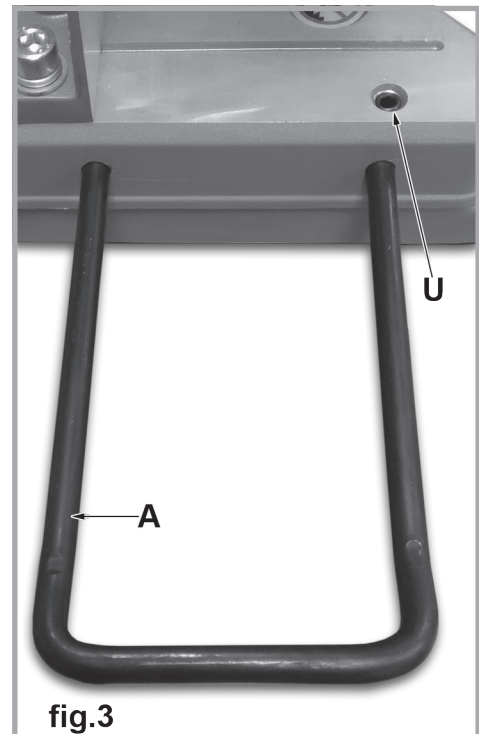

fig.3
1. Install the lateral extensions (A & T, fig.3), sliding each one, with the end curved upward, into the double holes at the left and right sides of the table. The extensions must be fastened in place by tightening the 4 mm hex set screw (U) recessed into the top of the table bed.